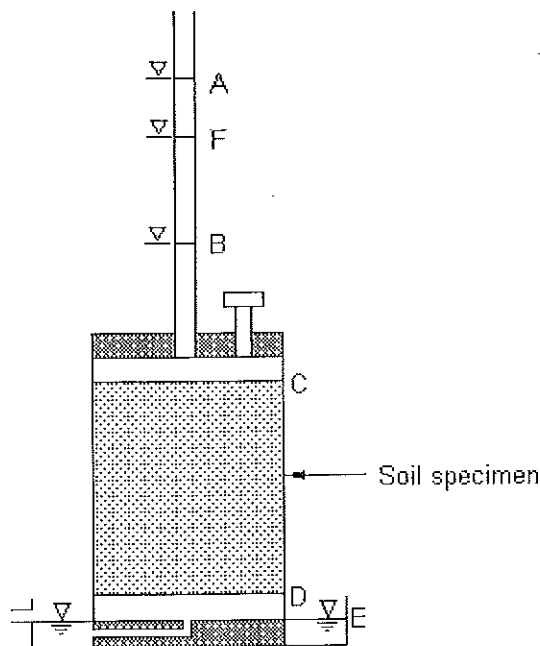

Fig. B2
2. Fig. B2 shows a schematic diagram of a Falling-head permeameter. Two porous stones are placed on either side of the soil specimen to facilitate drainage. Level E is the datum level. The time interval for the water level to drop from Level A to Level B is recorded.
- Sketch Fig. B2 on your answer script. Indicate the total head at points C and D when the water level is at A, as a height measured from datum E. (3 points)